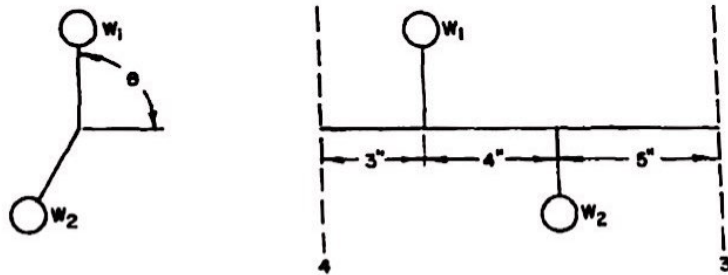

FIGURE P12-5
- †12-15 Figure P12-5 shows a system with two weights on a rotating shaft. $W_1 = 10 \text{ lb @ } 90^\circ$ at a 3-in radius and $W_2 = 15 \text{ lb @ } 240^\circ$ at a 3-in radius. Determine the magnitudes and angles of the balance weights needed to dynamically balance the system. The balance weights in planes 3 and 4 are placed at a 3-in radius.
Statement: Figure P12-5 shows a system with two weights on a rotating shaft. For the given data below, determine the magnitudes and angles of the balance weights needed to dynamically balance the system.
Solution: See Figure P12-5 and Mathcad file P1215.